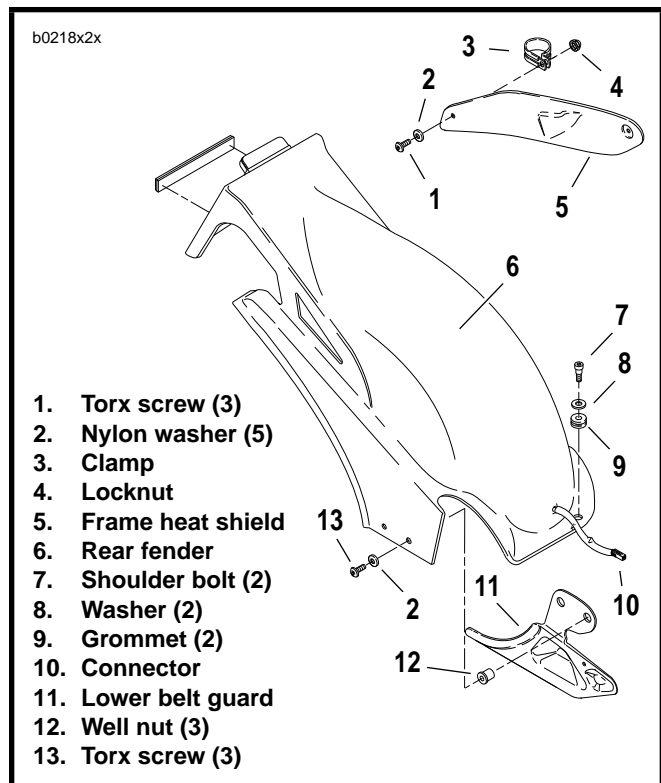

Figure 2-62. Rear Fender, Lower Belt Guard and Heat Shield
1. See Figure 2-62. Unplug connector (10)
2. Remove screws (13) and nylon washers (2) on right side to detach lower belt guard (11).
3. Remove shoulder bolts (7), washers (8) and grommets (9) on left side.
4. Remove rear fender (6) from swingarm.
2. See Figure 2-62. Remove screws (1), nylon washers (2) and locknut (4).
3. Remove frame heat shield (5).
4. If necessary, remove clamp (3).